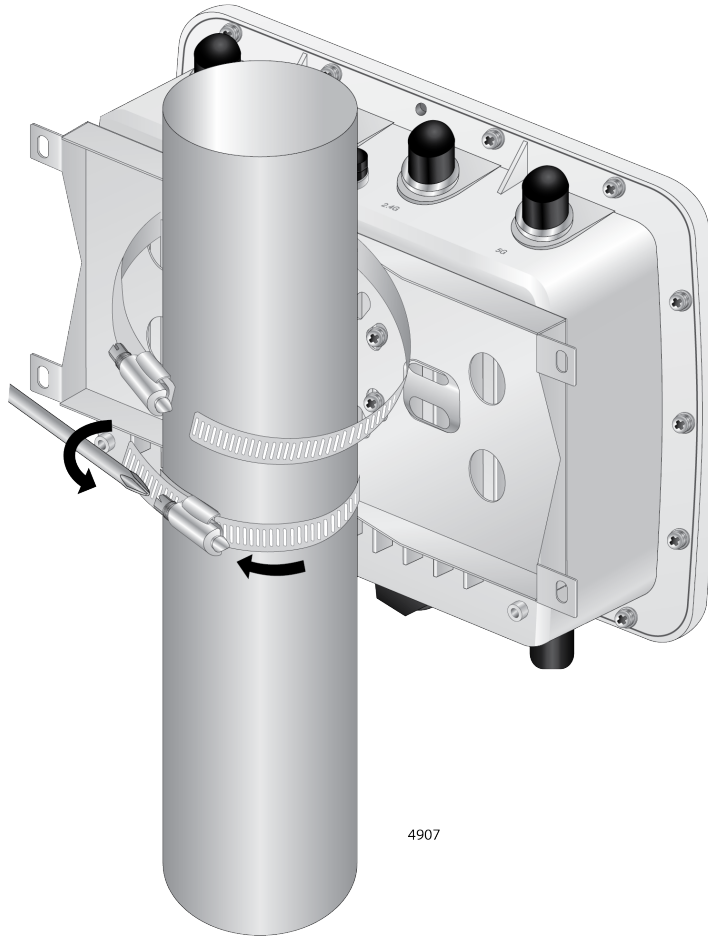

Figure 31. Securing the Access Point to the Pole Using the Pole Straps
4. Wrap the pole straps around the pole as shown in Figure 31 on page 64.
6. Tighten the screw with a Phillips-head screwdriver to tighten the pole strap until the access point is attached to the pole securely. See Figure 31.